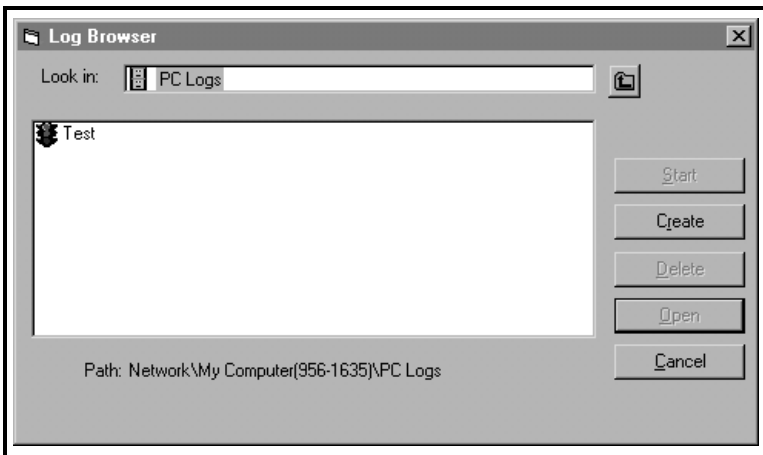

Figure 6-23: Create a PC Log
3. Double click on *PC logs* to advance to the dialog box shown in Figure 6-23 below.
4. At the dialog box shown in Figure 6-23 on the previous page, click on the [Create] option button to create a new meter log.